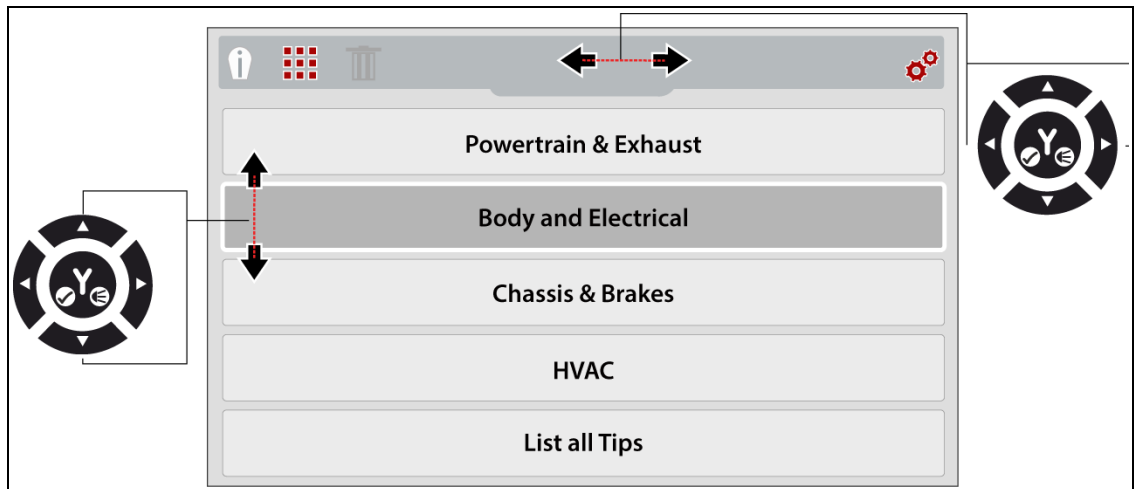

Figure 4-5
- To select a menu option, press the **Up / Down** control buttons (Figure 4-5).